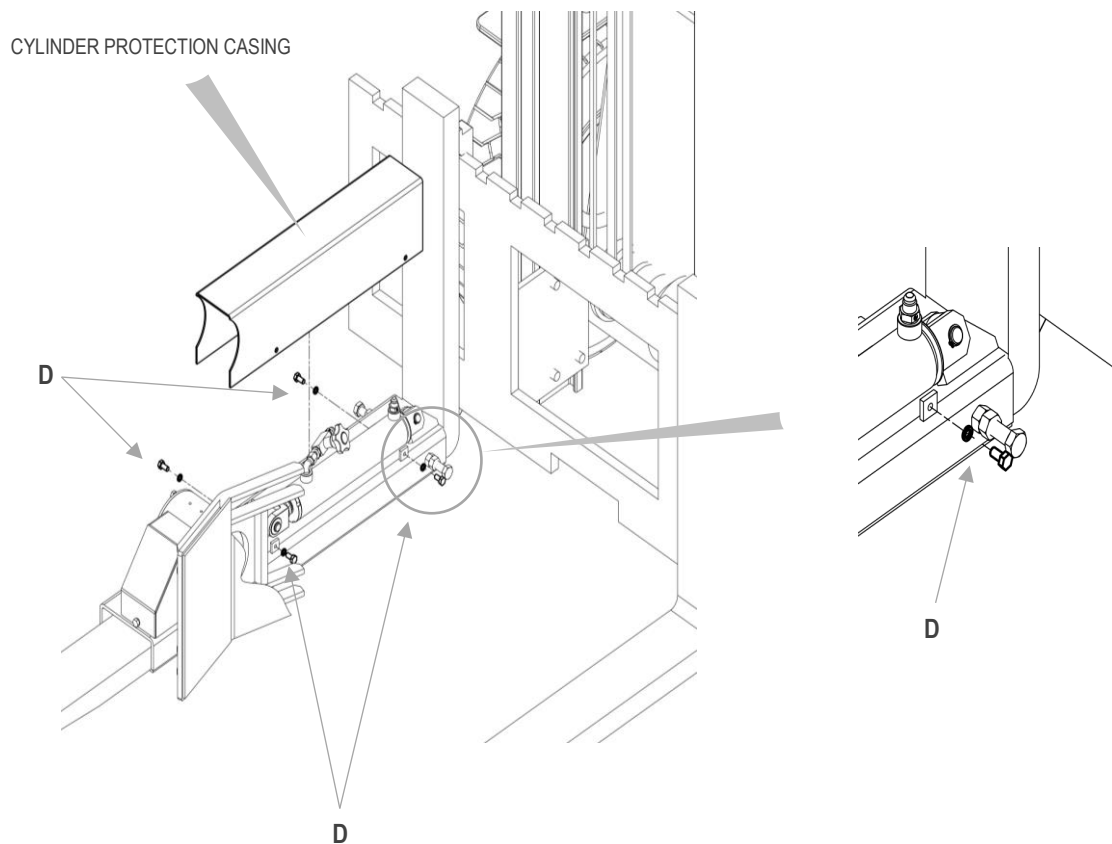

Figure 43
2. Unscrew the bolts **D** on the side of the "cylinder protection casing" and remove the casing (see Figure 43)